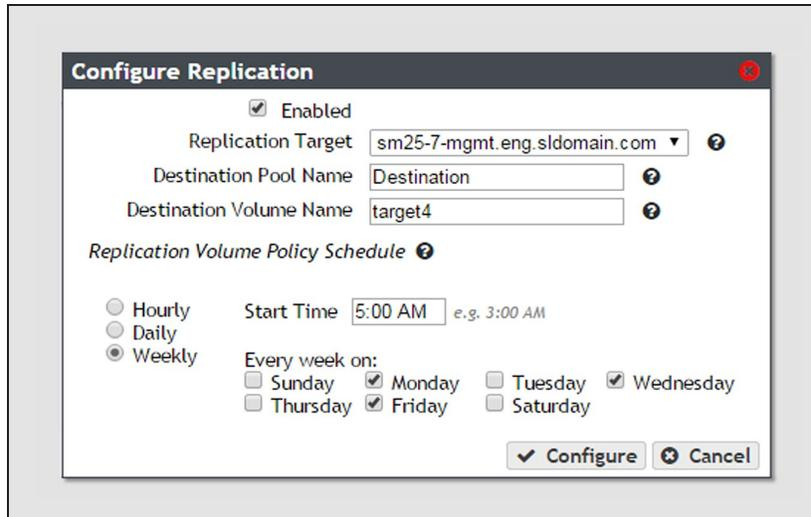

Figure 67 The Configure Replication dialog box showing the weekly interval options.
3. Select one or more days for **Every week on:**. This determines the day(s) of each week the NAS volume replicates data. For example, based on the selections in Figure 67, the NAS volume replicates data every Monday, Wednesday, and Friday at 5:00 AM.